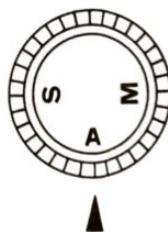
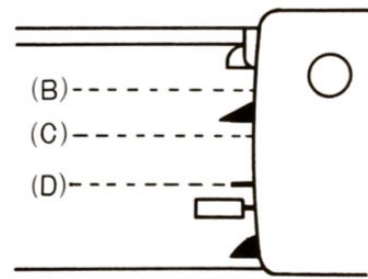

Fig. 10A
Fig. 10B
If you turn the knobs so that 'A' is now opposite the pointer (Fig. 10A), you will notice that the tip of the Needle Guide Cam is extended at right angles to the carriage end and midway between Position (B) and (C) of the needles. (Fig. 10B)